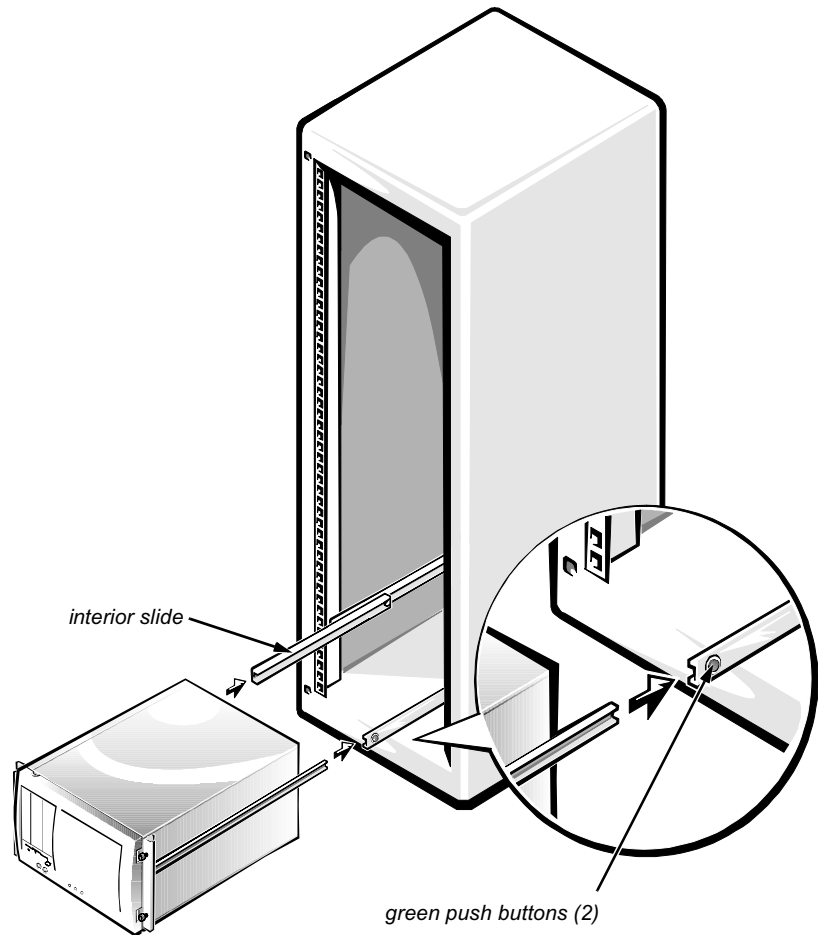

Figure 11. Installing the Computer in the Rack
NOTES: When installing the slide assemblies, be sure that the green plastic stops at the ends of the channels are at the back of the rack and that the green push button (on the interior slide) is near the front of the rack (see Figure 11).
2. Lift the computer into position, and insert the computer's rails into the channels of the interior slides (see Figure 11).
NOTE: As you push the computer into the interior slides, the slide assemblies lock in the extended position. Press the green push button near the end of each interior slide to release the locks (see Figure 11), and then slide the computer completely into the rack.